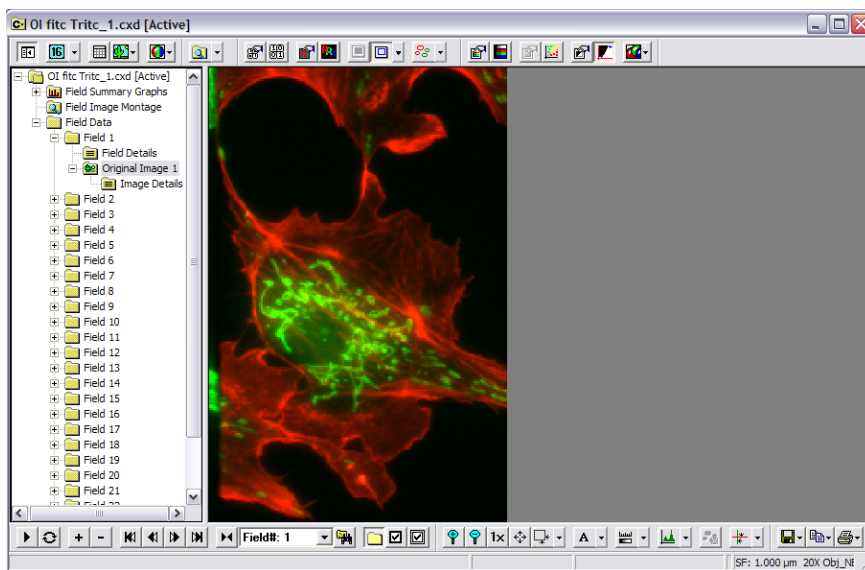

fig.3
4. A merged CXD file is created (fig.3).